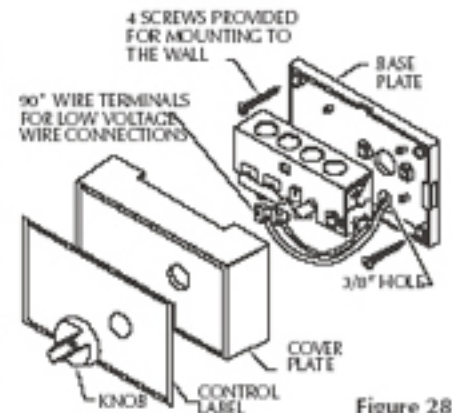

Figure 28
5. Remove the cover plate from the humidistat and you will see four holes at the corners of the base plate mount the humidistat on the wall using the (4) 1" long screws provided. Make sure it is level and the low voltage wire is coming out thru the 3/8" hole on the base plate. (Fig. 28)